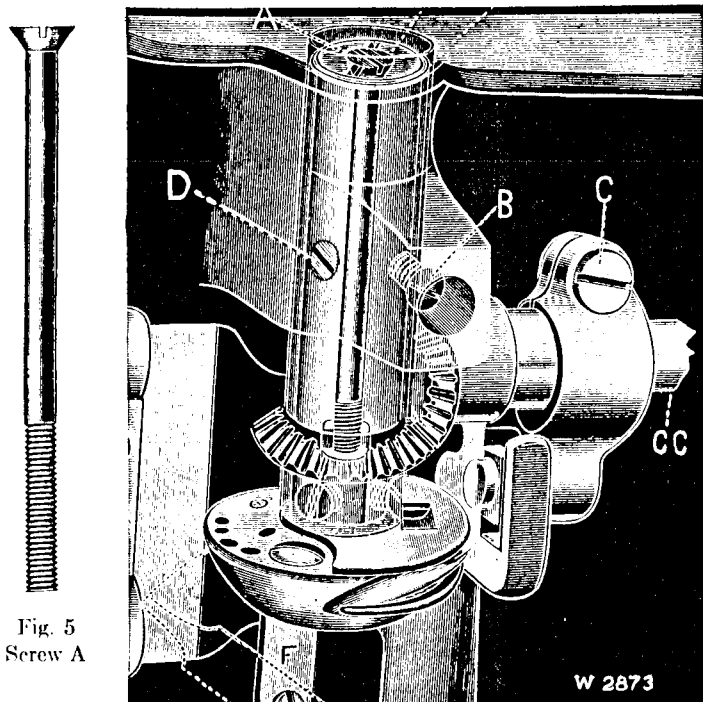

Fig. 6
Transparent view showing how the hook and its shaft (which runs in a bushing) are held together by screw (A, Fig. 6), also showing the feed bar slide block and its crank with the hook driving bevel pinion shaft extending out to the right at (CC).
Remove the throat plate; clean the lint and dirt from between the feed points and replace the throat plate; tip the machine back and turn the balance wheel towards you until the feed dog is at its highest position; loosen screw (C, Fig. 6) and raise or lower the feed dog as desired and retighten the screw.